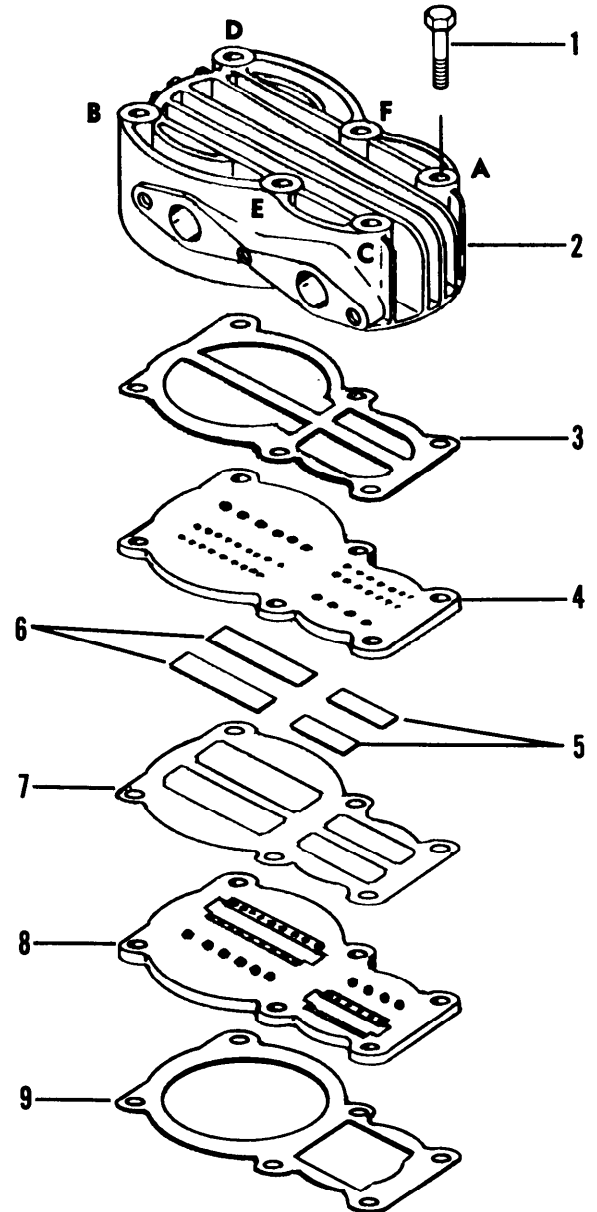

Figure 4-6. Cylinder head, first and second stage valves
- (1) Unscrew and remove the six cylinder head bolts (1, fig 4-6). Tap the cylinder head lightly with a plastic head hammer, or equivalent, to break the seal of cylinder head and valve plates to compressor cylinder.
- (2) Separate cylinder head (2) and cylinder head gasket (3) from upper valve plate (4).
b. Cleaning. If gasket material has stuck to cylinder head (2, fig 4-6) or valve plates (4, 8), carefully scrape off material. Clean all parts, except gaskets (3, 7, 9) with solvent, P-D-680, or equivalent, and dry thoroughly. Make certain air passage holes in valve plates (4, 8) are free of any foreign matter.
d. Repair or replacement. No repair of these parts is authorized. Replace gaskets (3, 7, 9, fig 4-6) each time cylinder head (2) is removed to ensure proper sealing at assembly. If second stage valves (5) or first stage valves (6) are worn or damaged, replace all of the valves.
- (1) Place a new cylinder gasket (9, fig 4-6) in position on compressor cylinder. Position lower valve plate (8) on gasket (9) with valve recesses facing up.
- (2) Position valve plate gasket (7) on lower valve plate (8). Apply just enough grease (MIL-G-10924) or petroleum jelly on ends of first stage and second stage valves (6, 5) to hold them in place. Assemble the two first stage valves (6) and two second stage valves (5) in position on valve plates.
Legend for fig 4-6:
(3) Place upper valve plate (4) on lower valve plate (8) in position as marked at disassembly.
(4) Place cylinder head gasket (3) and cylinder head (2) onto stacked valve plates. Install six cylinder head bolts (1). Tighten bolts until snug; then, torque the bolts to 30-33 ft-lbs (4.1 - 4.6 kgs-m) in the letter sequence, A through F, as shown in figure 4-6.